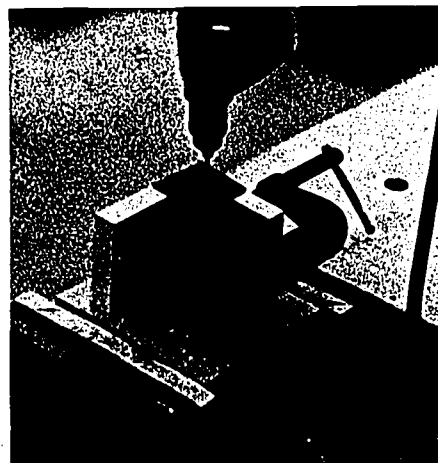

Fig. 18C-3. Using a Drilling Fixture to Accurately Locate Outlet Holes in the Salt and Pepper Shakers
3. Using the electric hand drill, drill the four outlet holes. Be sure to drill the holes *straight*. See Fig. 18C-3.